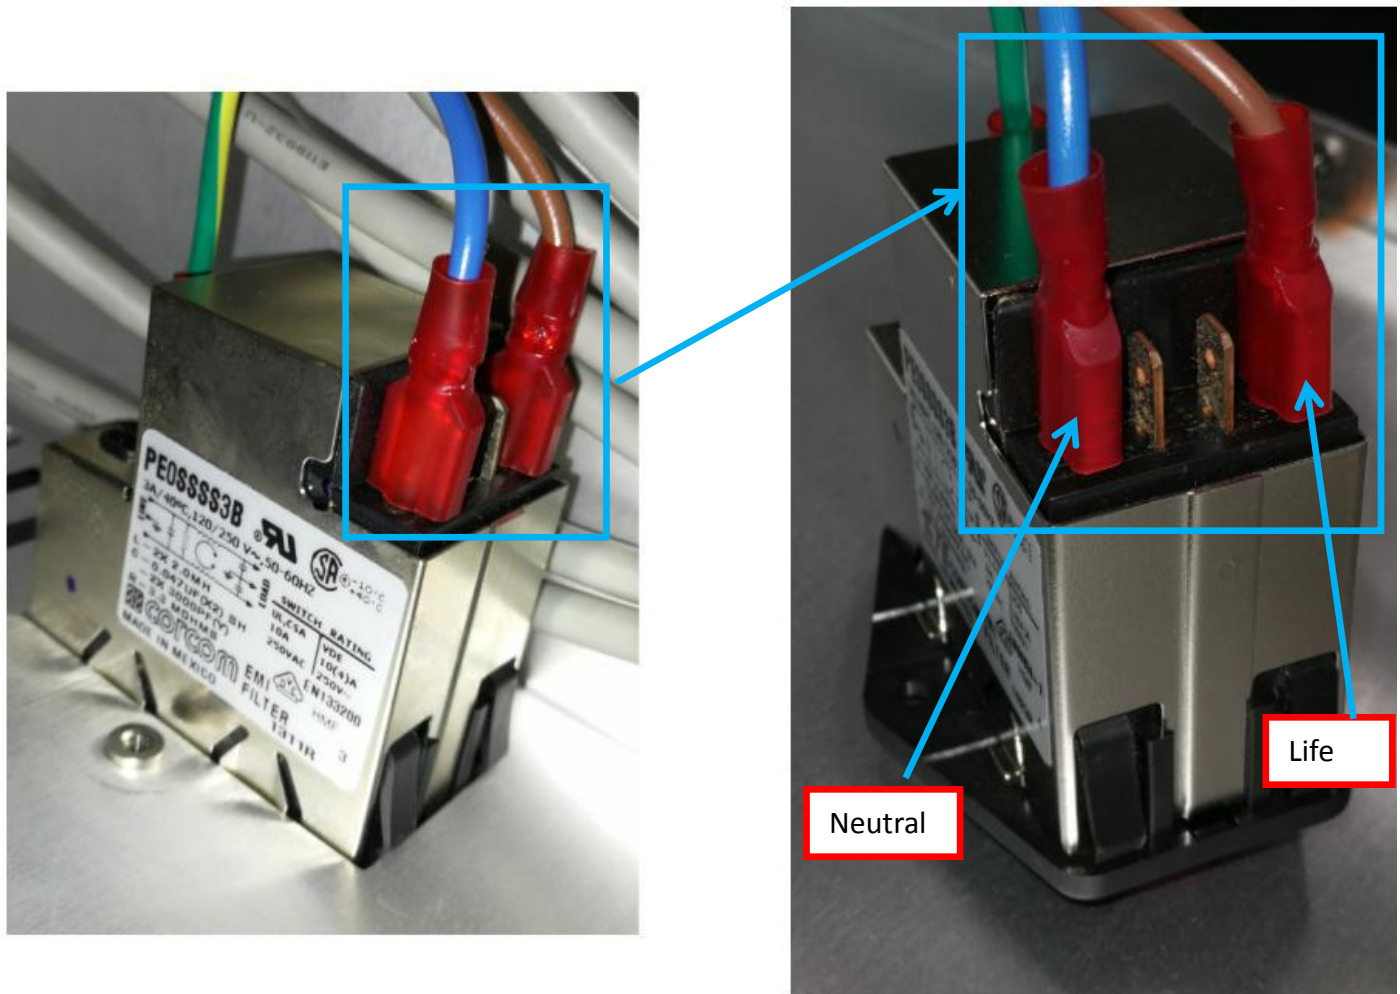

Figure 26 Power Switch Power Cable connection
10. Connect Power Switch Life & Neutral Cable into Power Switch by refer to below orientation. May refer to Figure 26